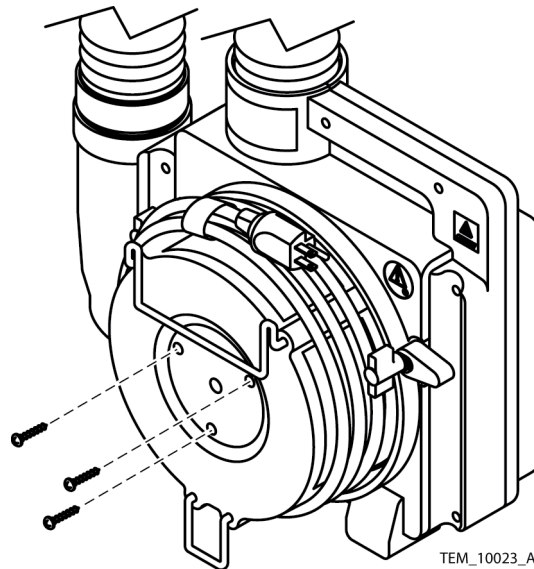

Figure 5-40. Filter Cover Installation
28. Install the filter cover assembly on the rear cover assembly. Tighten the screws to 8 to 12 in/lbs (20 to 30 cm/kg). See Figure 5-40.